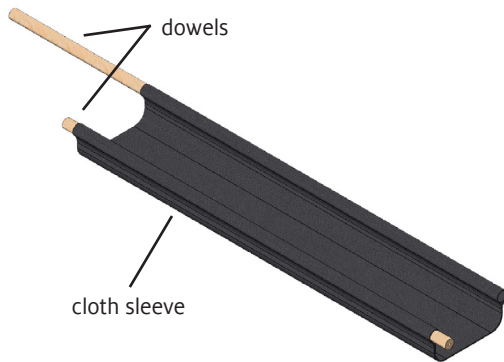

FIGURE 2: INSERT DOWELS IN CLOTH SLEEVE
2. Insert dowels through the sleeves of the trap cloth (Figure 2).